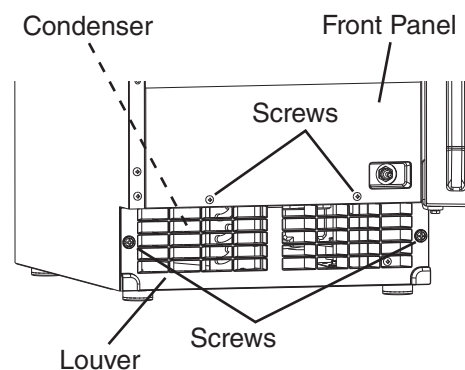

Fig. 47
- 2) Remove the 2 screws securing the front panel, then remove the panel. See Fig. 47.